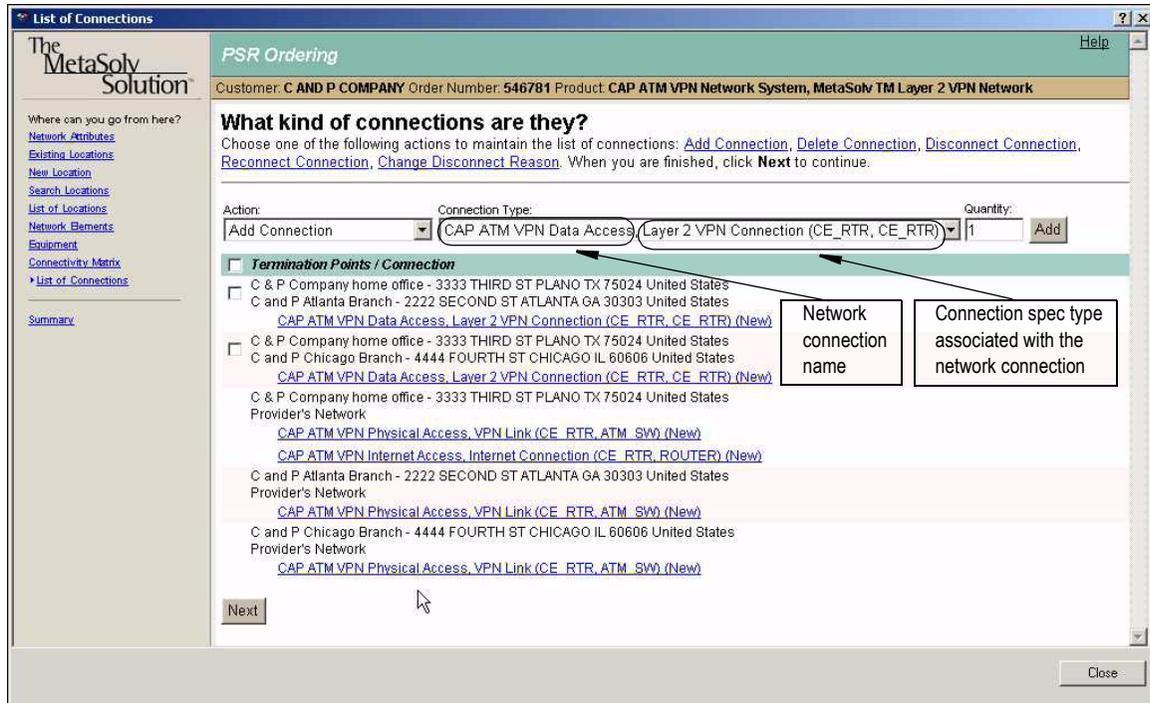

Figure 32: What kind of connections are they?
- Click the **View** link on View list of connections to display the window shown in Figure 32, “What kind of connections are they?,” on page 58.